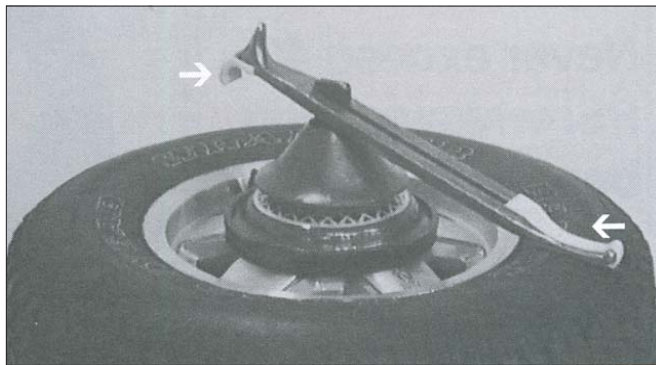

Figure 22 - Combination Tool Boot
**6.** Use the plastic combination tool boots supplied with the optional Speed Mag adapter to prevent scratching of custom wheels (figure 22). Boots may be ordered separately (part#8106568, 10 pairs).